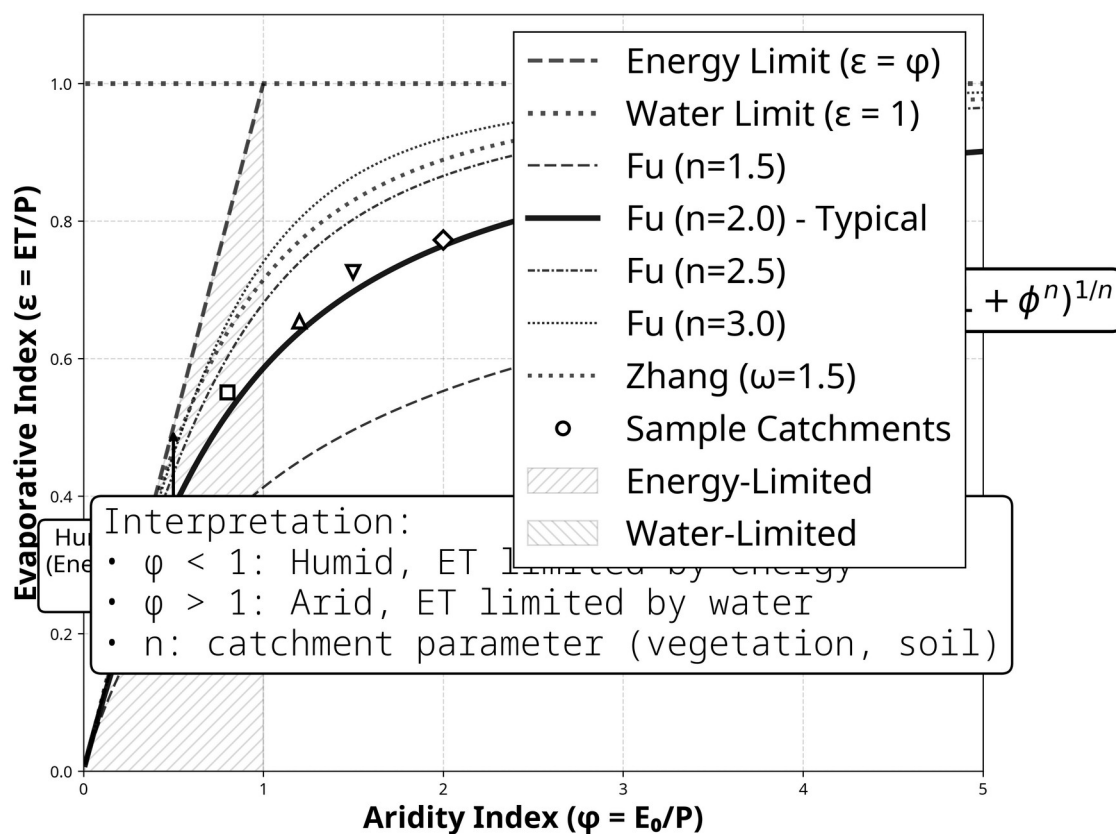

Figure 1.3: The Budyko Curve
**Figure 1.3:** The Budyko curve showing the relationship between aridity index ( $\phi$ ) and evaporative index ( $\epsilon$ ). The curve demonstrates how climate controls the partitioning of precipitation into evapotranspiration and runoff, with energy-limited conditions at low  $\phi$  and water-limited conditions at high  $\phi$ .